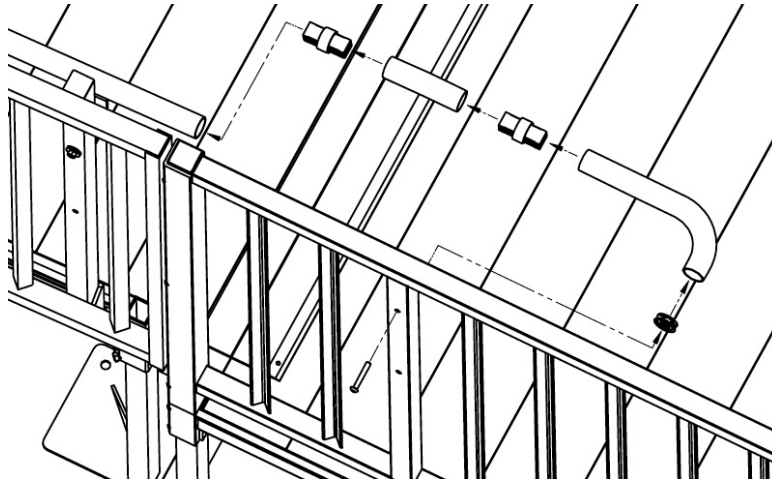

FIG. 35
- 8.4 At a turn platform on the outside, non-turn side (both where the top of a ramp meets a platform and where a ramp starts at a platform) as shown in FIG. 35: